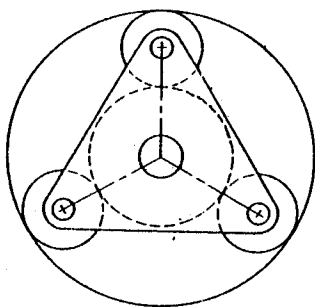

Fig. 1
2. Please determine the degrees of freedom of the planetary gear train shown in Fig. 1. Before that please indicate the number of links, types and number of joints. [5]